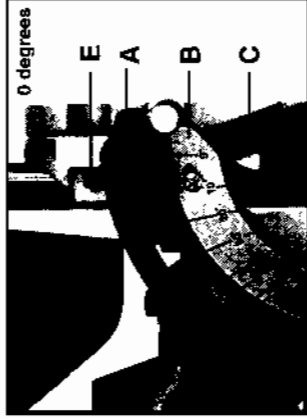

Fig. 6
Angle Adjustment (see Figs. 6, 7, 8 & 9)
The adjustable 90° stop is factory adjusted for 90° and should not require additional adjustment. If "fine tuning" of the stop position is required: use a 3/64" hex wrench (not furnished), to rotate set-screw (E) Fig. 6, as required. Rotate the set-screw clockwise to reduce the angle of the fence, rotate the set-screw counterclockwise to increase the angle of the fence.